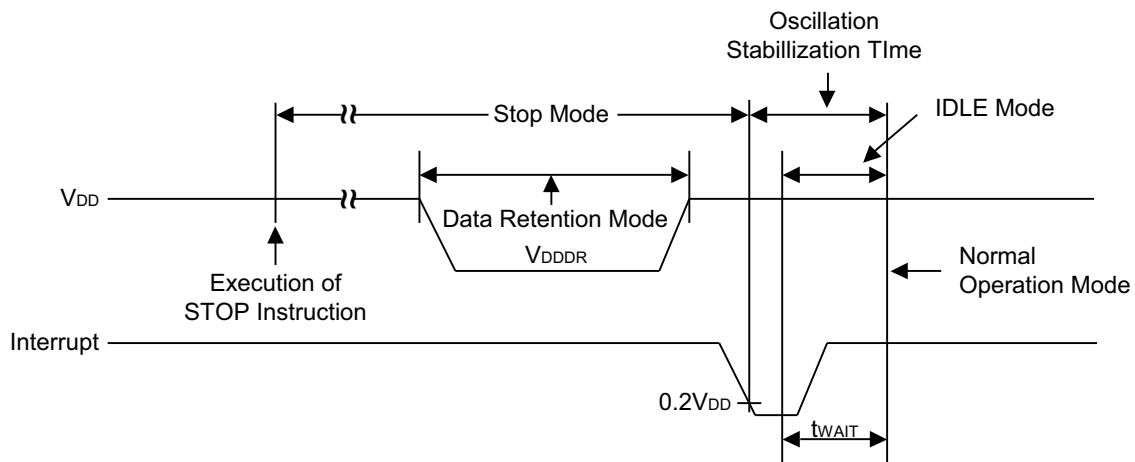

Figure 124. Stop Mode Release Timing Initiated by Interrupts
► **Note:** In Figure 124, t_{WAIT} is the same as $16 \times 1 / f_{BT}$; f_{BT} = the basic timer clock selection.